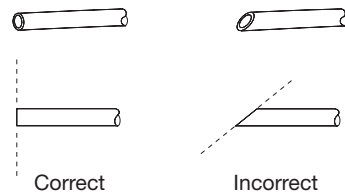

Figure 1
3. Cut and remove a 6" section of refrigerator water supply tubing. Use a tube cutter for copper tubing and a utility knife for plastic tubing. Make sure ends are square and free from nicks and deep scratches (see Figure 1).